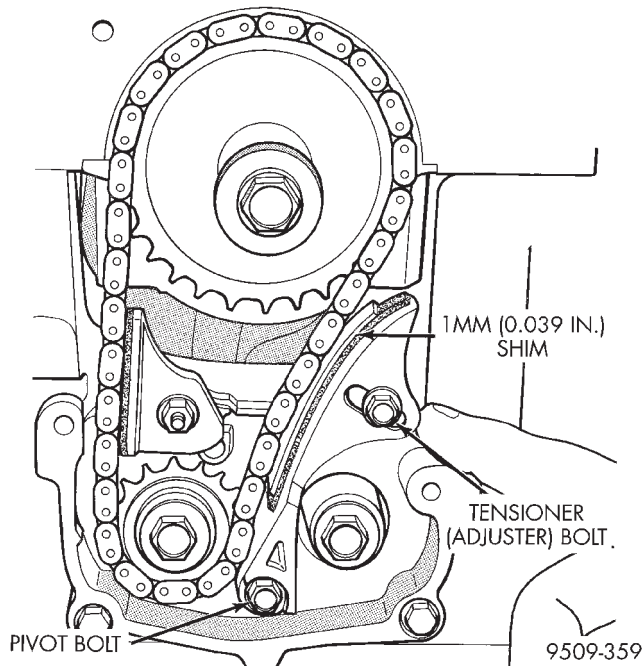

Fig. 42 Chain Tension Adjustment
(1) Install chain tensioner loosely assembled.
(2) Position guide on double ended stud making sure tab on the guide fits into slot on the gear cover. Install and tighten nut/washer assembly to 12 N·m (105 in. lbs.).
(3) Place a shim 1 mm (0.039 in.) thick x 70 mm (2.75 in.) long or between tensioner and chain. Push tensioner and shim up against the chain. **Apply firm pressure (5.5 to 6.6 lbs.) directly behind the adjustment slot to take up all slack.** Chain must have shoe radius contact as shown in (Fig. 42).